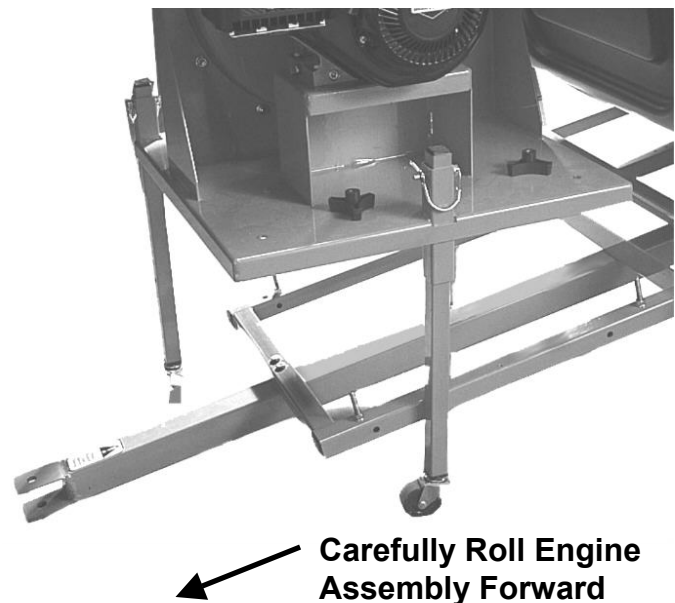

Figure 48
6. Slowly lower the trailer from under the engine (Figure 48). The engine assembly is now free to be moved away from the trailer.
7. Carefully roll the Engine Assembly forward from the trailer frame (Figure 48).